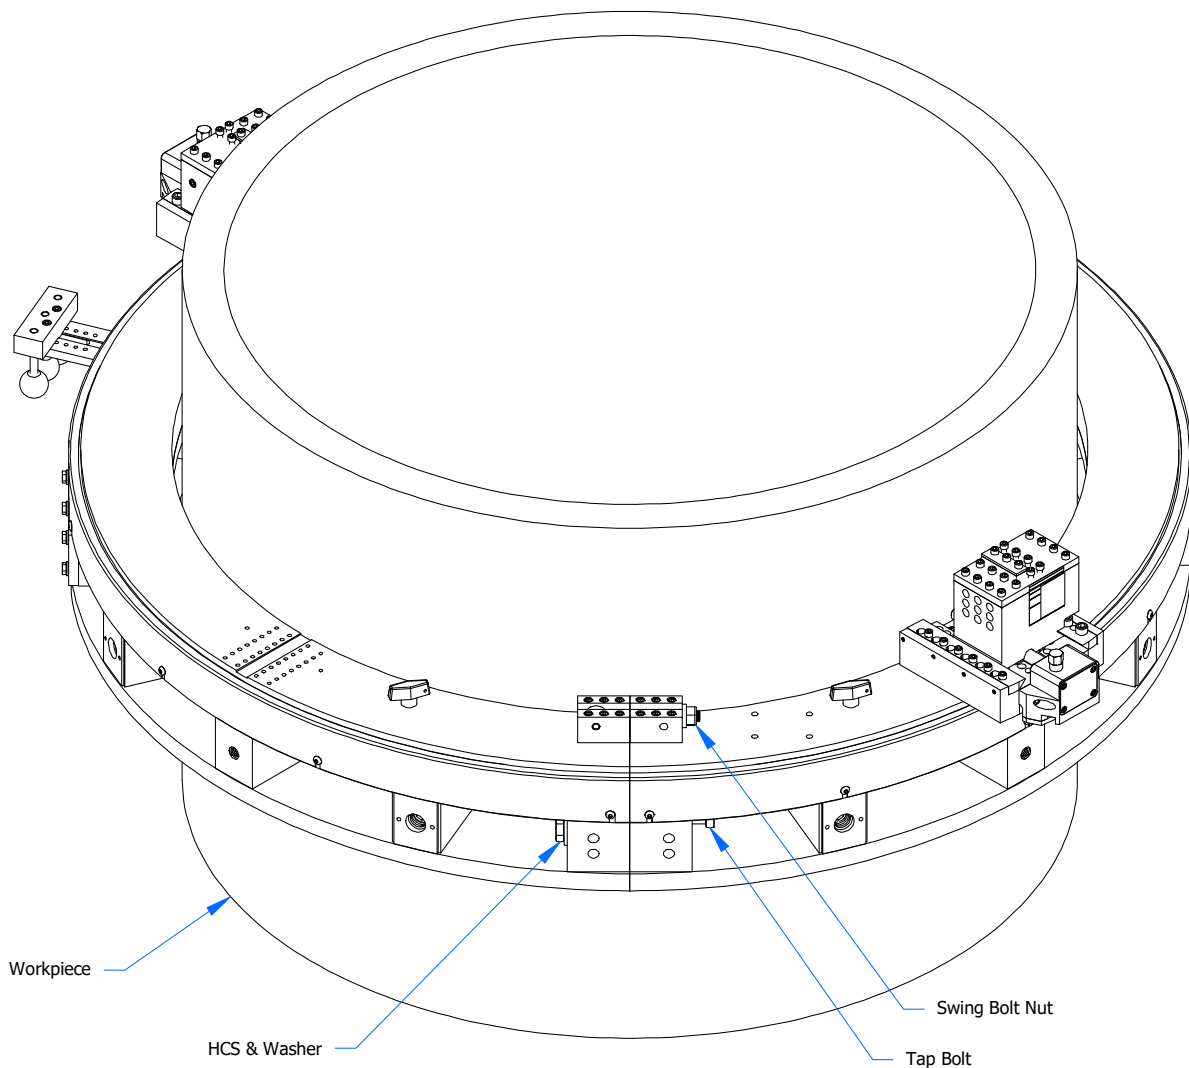

Figure 2-5 – Install Clamshell on Workpiece
5. Place the clamshell halves around the workpiece. Close the clamshell by first screwing in the two hex cap screws on each side of the clamshell split until tight. Close the swing bolt and fasten with the swing bolt nut on each side of the clamshell. Tighten the locators against the workpiece. Final tightening will be completed after the clamshell is centered and squared to the workpiece. See Figure 2-5.